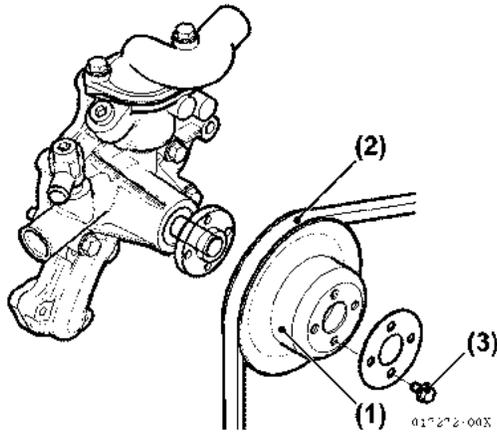

Figure 6-51
13. Reinstall the coolant pump V-pulley spacer (Figure 6-51, (1)).
14. Reinstall the cooling pump V-belt (Figure 6-51, (2)). See *Replacing Coolant Pump Belt and Pulley* on page 7-18.